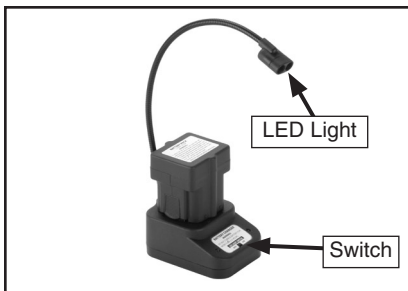

Figure 2. LED gooseneck work light with battery installed.
2. Mount a charged 7.2 NiCad battery into the battery charger (see **Figure 2**).